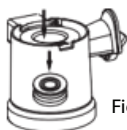

Fig. 9
- a. Turn the juicing bowl upside down for easier handling. Push the seal ring out with your thumb (Fig 9) and clean it with water.